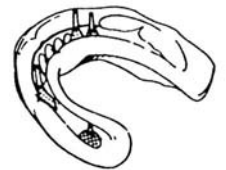

Fig. 9
15. The dentist must make an accurate passive impression (using silicone, rubber base material or plaster), incorporating the castings into the impression to create a model for the partial framework (Fig. 9).